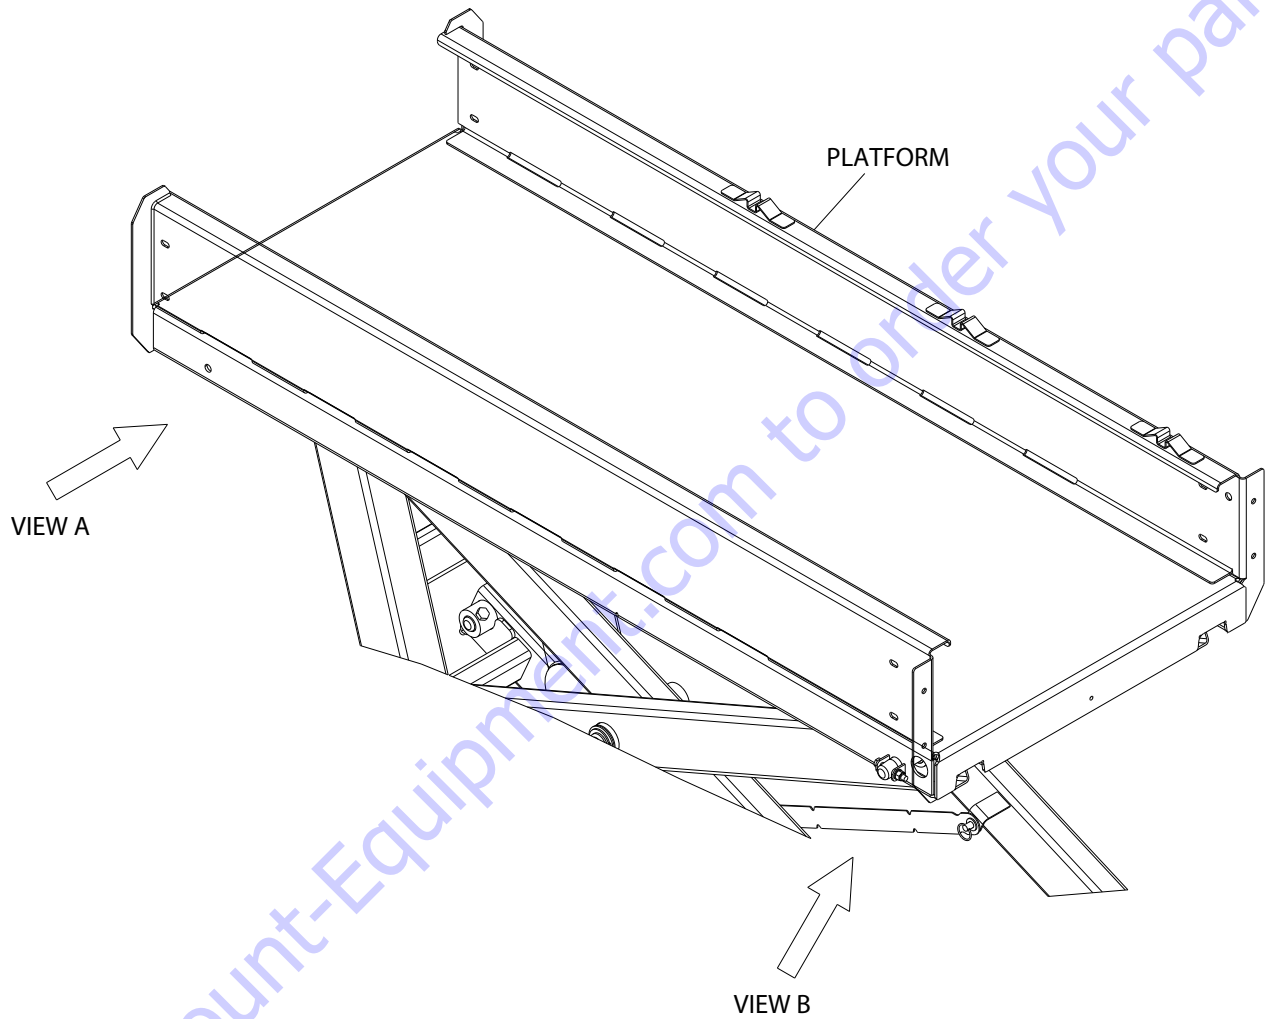

**Figure 3-36. Platform Assembly - Installation/Removal (1532R)**
**NOTE:** Refer Figure 3-34., Figure 3-35. and Figure 3-36.
4. Remove hardware securing pin (Fixed support and arm stack). Using suitable tool, remove the pin from fixed support and arm stack at two corner (See Figure 3-36.).